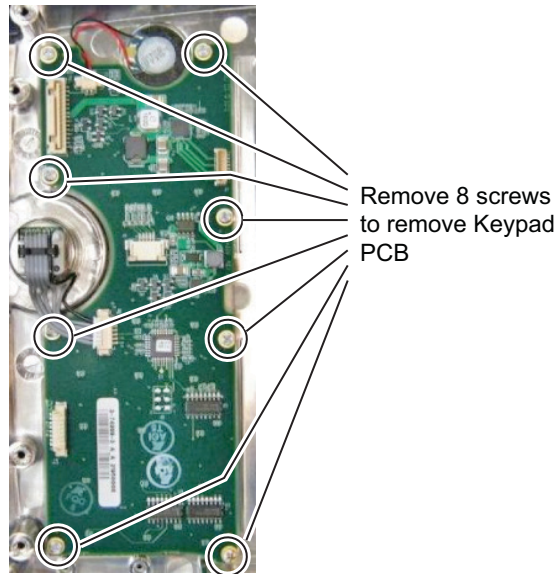

Figure 8-11. Keypad PCB
- Remove the 8 screws securing the Keypad PCB to the front panel and carefully lift it out. The rubber Keypad Membrane is located under the Keypad PCB (Figure 8-11).